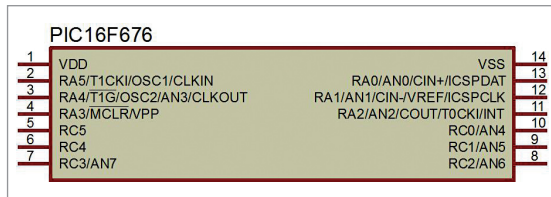

Fig. 4: Pin diagram of PIC16F676
- Power-on reset, comparator, in-circuit serial programming, and master clear reset are some other features incorporated in the device. These help it stay ahead of the other onboard chips and removes the need of buying external components for carrying out different operations. Pin diagram of PIC16F676 is shown in Fig. 4.